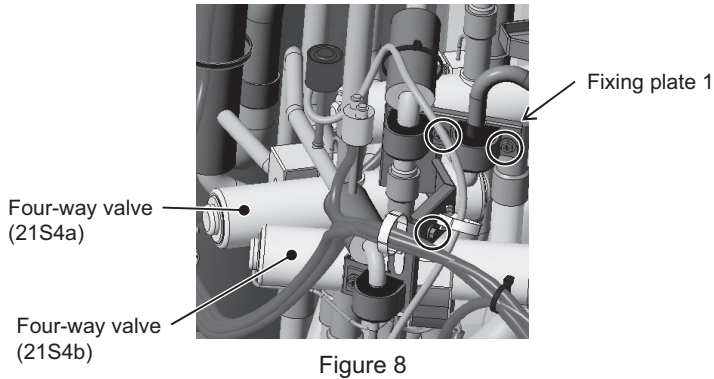

Figure 8
- (1) Remove the front heat exchanger. Refer to 8-13-8 Maintenance Procedures for the Heat Exchanger for details.
- (2) Remove the top, front, and right compressor covers. Refer to 8-13-5 Compressor Replacement Procedure for details.
- (3) Remove the fixing plate 1 above four-way valve (21S4b), saddle, and rubber spacer by unscrewing the three screws shown in Figure 8.